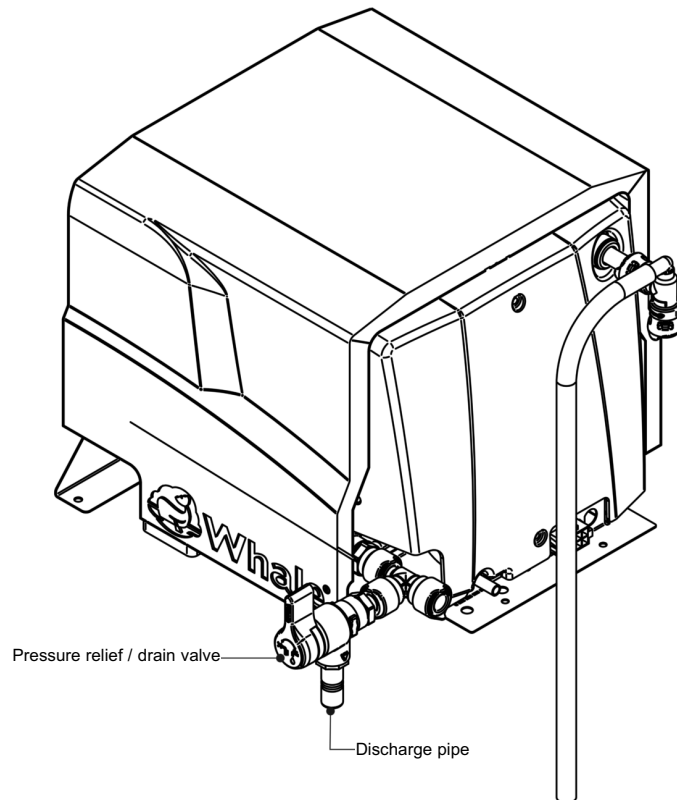

Fig. 14 Fitting the drain
Step 6 Fitting the drain pipes (see Fig. 14)